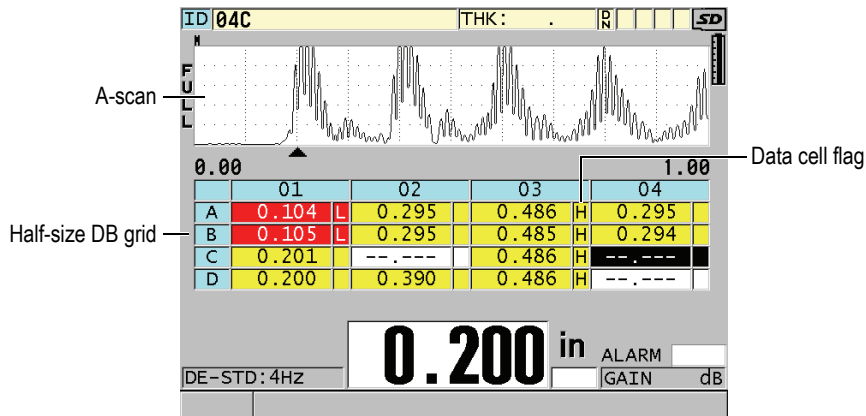

Figure 10-8 Example of the half-size DB grid
The database grid (DB grid) is a table representation of 2-D data. This representation gives you the ability to move freely in any direction on a grid rather than follow a preset list of IDs. Instead of automatically incrementing to the next ID location, you can use the arrow keys to move to a location that is more convenient. You can simultaneously display the A-scan, the DB grid, and the thickness reading (see Figure 10-8 on page 145). You can configure the grid cells to show a data cell flag and a background color corresponding to the range in which their thickness reading falls.
8. Set **DATA CELL FLAG** to one of the available options to display a single data flag with each data cell in the DB grid. The data cell flag is a letter that appears in a small box to the right of the thickness value in the data cell (see Figure 10-8 on page 145). The available options are: